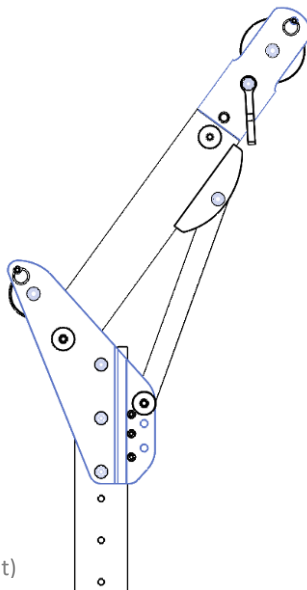

Fig.6
4.1 Setting up the G.Davit (See Fig. 6)